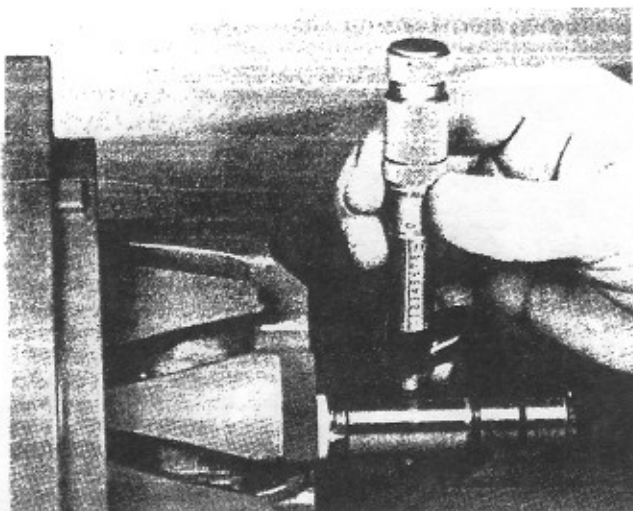

Figure 16
16. Check bearing inner race diameter (Fig. 16). Minimum diameter allowed = .8709"